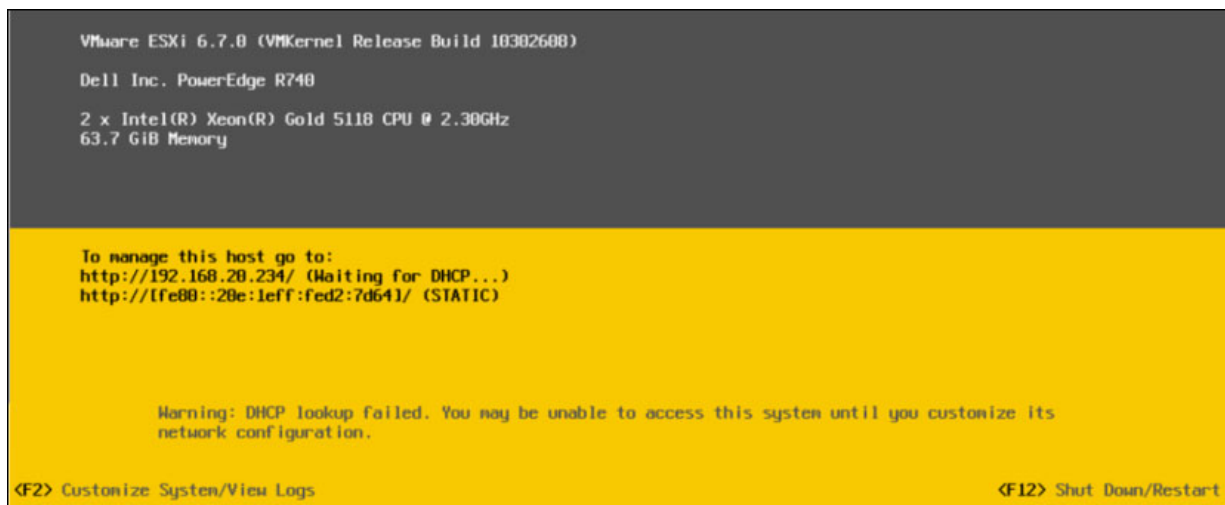

Figure 6-25. VMware iSCSI Boot from SAN Successful
7. After the ESXi OS installation completes successfully, the system boots to the OS, as shown in Figure 6-25.